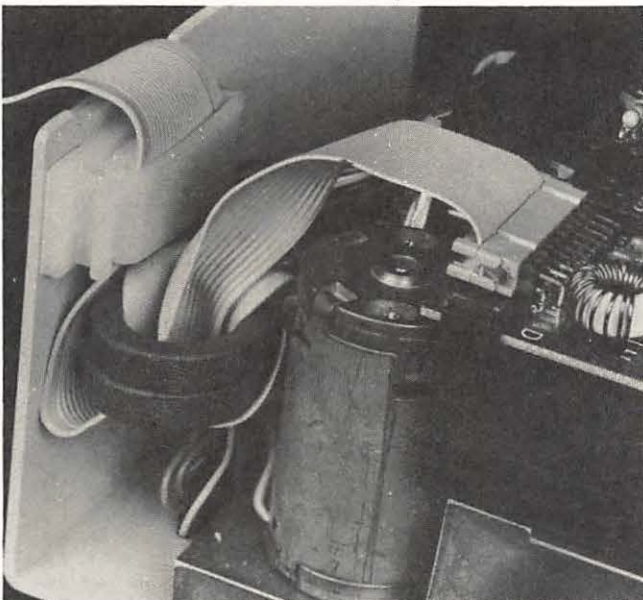

Fig. 8-16. Cable plugs are keyed, but be careful to install them correctly.
22. When the head and pressure pad are dry, reinstall the analog card as follows: (a) gently slip the card beneath the two black plastic hold-downs, moving the card from the front to the rear of the drive; (b) center the card over the two Phillips head screw holes; (c) reinstall the two Phillips head screws; and (d) reinstall the three cable plugs at (A), (B), and (C).
CAUTION: You can damage the drive electronics if you attach the cable incorrectly. Cable plugs (A) and (C) are keyed so you can connect them in only one way. Cable plug (B) has an arrow on one end of the plastic connector plug that should be pointing up when the plug is reinstalled, as shown in Fig. 8-16. The cable should feed up away from the connector as shown in Fig. 8-16. Make sure all the pins are correctly matched with the holes in the plug.